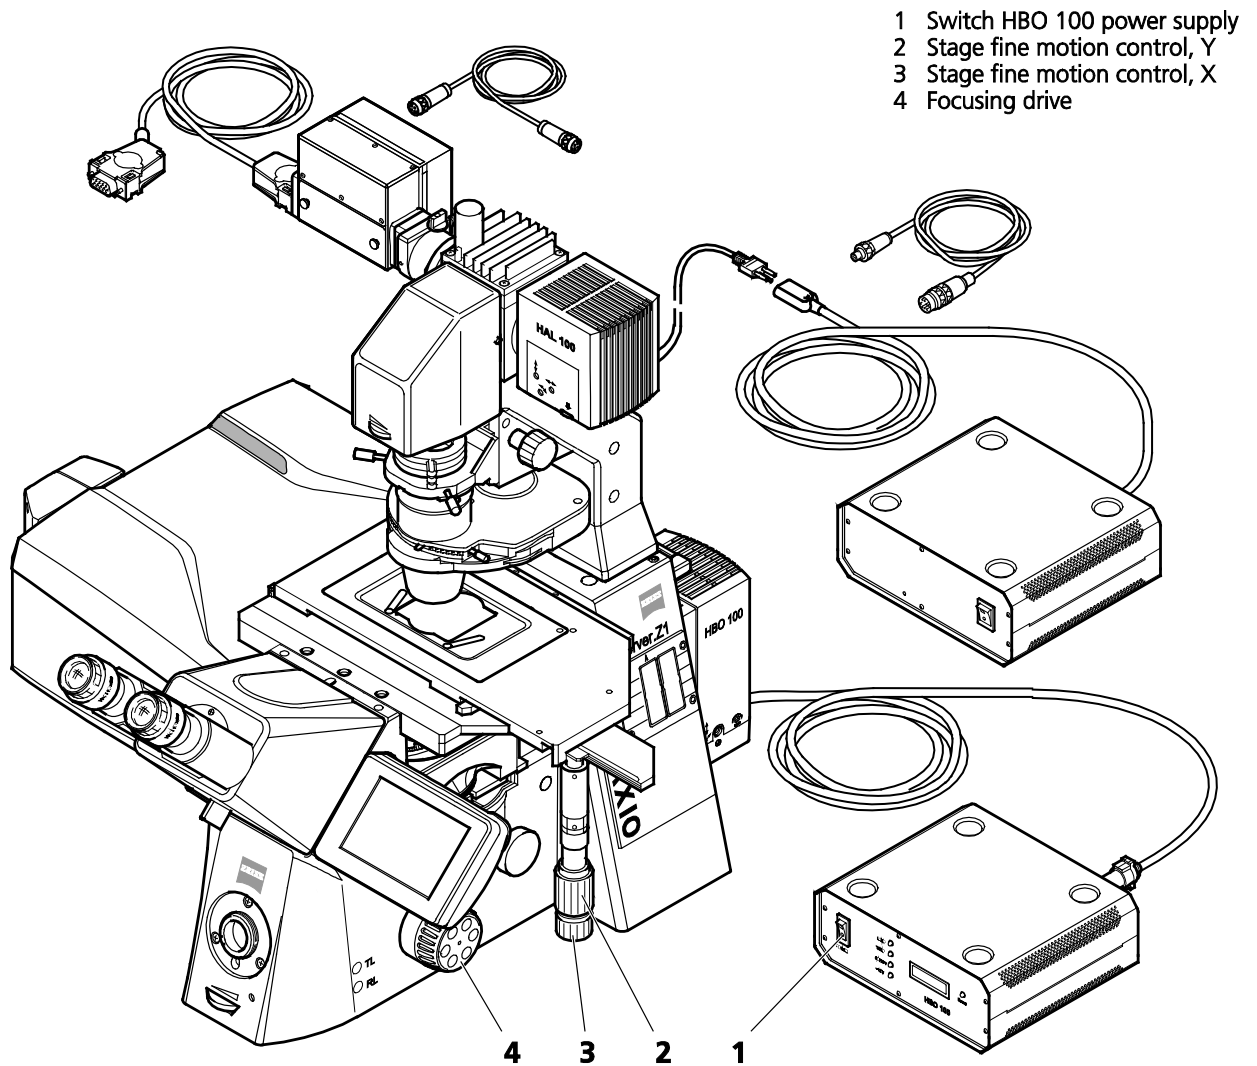

Fig. 59 LSM 880 with AxiObserver.Z1
- Use the focusing drive (Fig. 59/4) to focus the required specimen plane.
- Select specimen detail by moving the stage in X and Y via the XY stage fine motion control (Fig. 59/3 and 2).
- Turn on the HBO 100 power supply switch (Fig. 59/1).